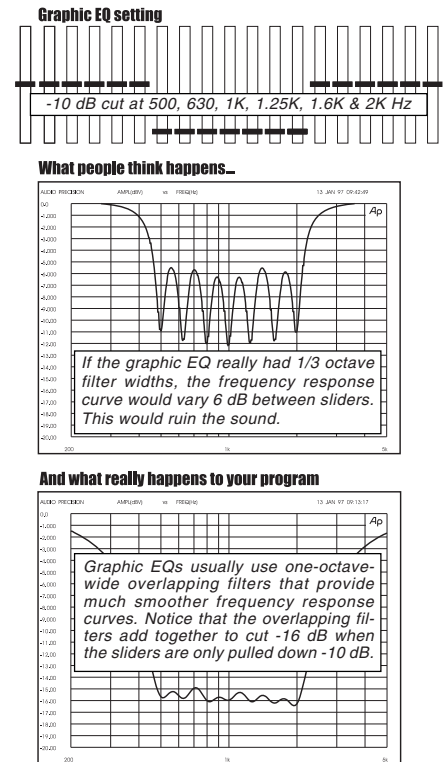

Fig. 7a.
2. A second advantage is that FBX micro-filters are precisely placed anywhere feedback occurs (with 1 Hz resolution), while graphic EQ filters are limited to 31 fixed center points. An FBX filter represents a direct hit on feedback! In contrast, a graphic EQ filter can only approximate the exact frequency of the feedback, and the filter (or filters) with the closest center frequency must be pulled down. Such filters are deepest at their centers, and such imprecise attenuation takes a big (and unnecessary) chunk out of your sound (see figure 7a).